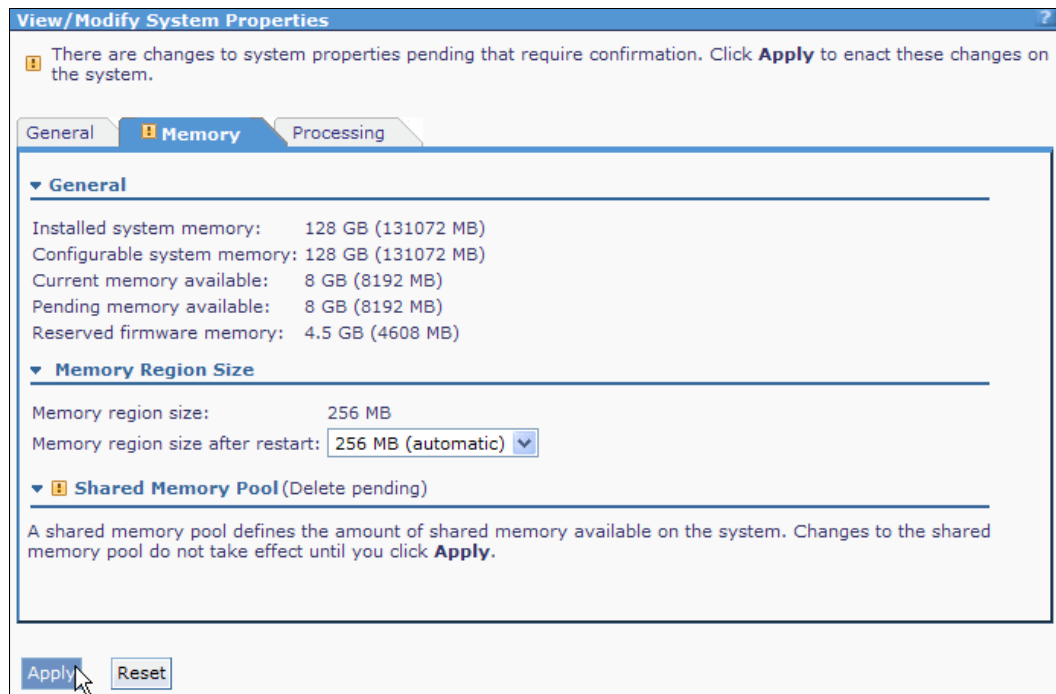

Figure 4-29 Applying shared memory pool deletion
4. The shared pool deletion is still pending, as shown in Figure 4-29. Click **Apply** to change and remove the AMS pool.